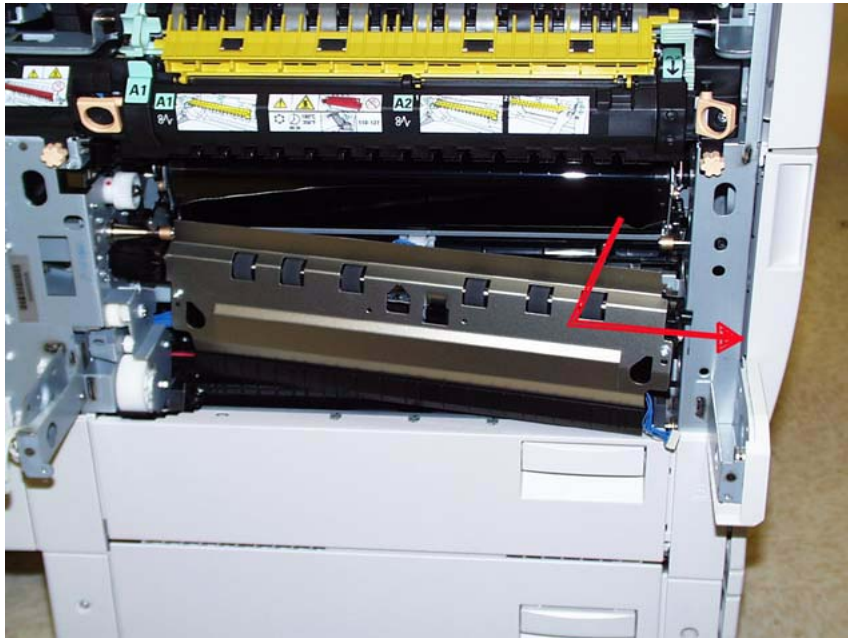

Figure 3 Removing the Registration Unit
5. Pull the outboard end of the Registration Unit toward the left of the machine and remove the Unit. (Figure 3)